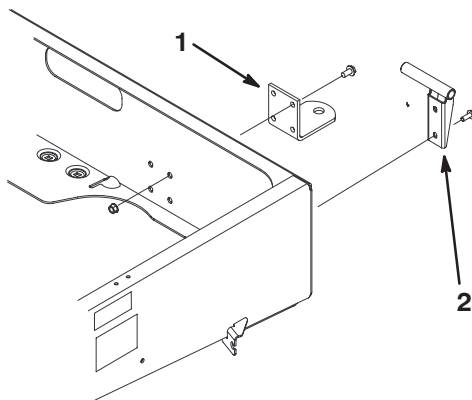

Figure 7
2. Align the hitch with the mounting holes on the frame. Secure the hitch with the screws and nuts (Fig. 7).
2. Mount the left hand pivot bracket to the left rear corner of the frame with 2 flange head screws (3/8 x 1 in.). Position the bracket as shown in Figure 7.